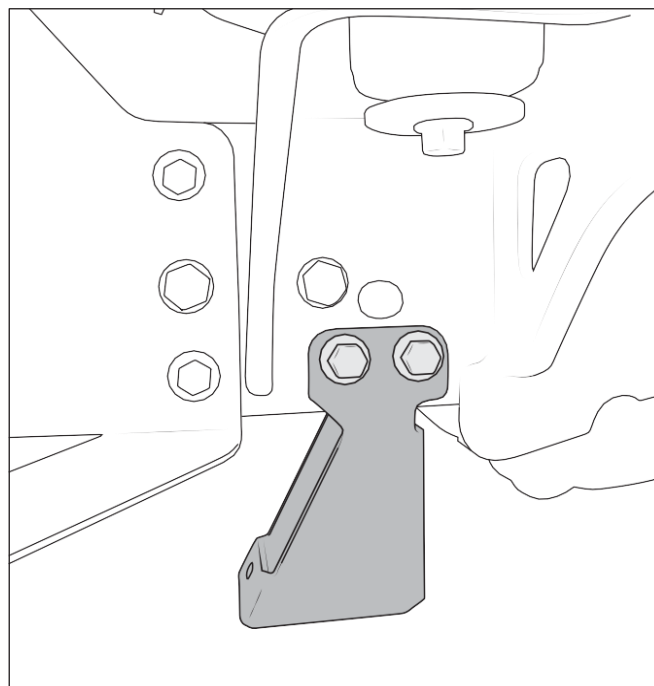

Figure 4
1. Loosely install the two AEV brackets using either the factory hardware saved in step one, or the AEV supplemental hardware kit PN: 110602112AA (fig. 4).
- A. NOTE: There is a slight difference between 25/3500 brackets & 45/5500 brackets. The Assembly process is the same, but a 25/3500 bracket is shown in Figure 4 below.